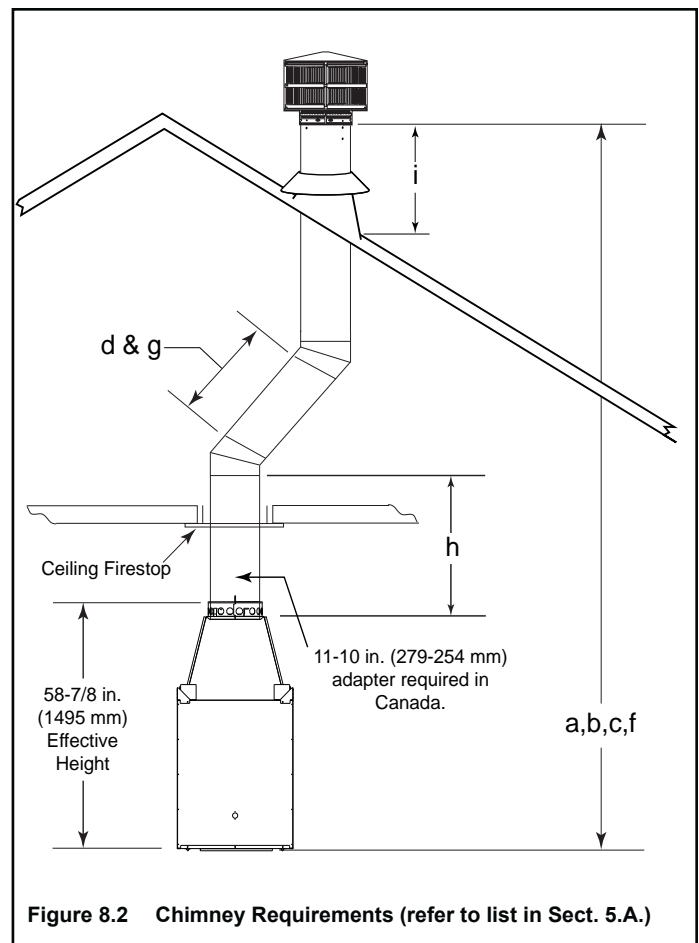

Figure 8.2 Chimney Requirements (refer to list in Sect. 5.A.)
Measure vertical distances from the base of the fireplace as shown in Figure 8.2.
- Subtract the effective height of the fireplace assembly (see Figure 8.2) from the total vertical height to determine the overall height of the chimney installation.
- Create a schematic for your application similar to Figure 8.2 showing components required (referring to Table 8.1). Figure 8.1 identifies those components and where used.